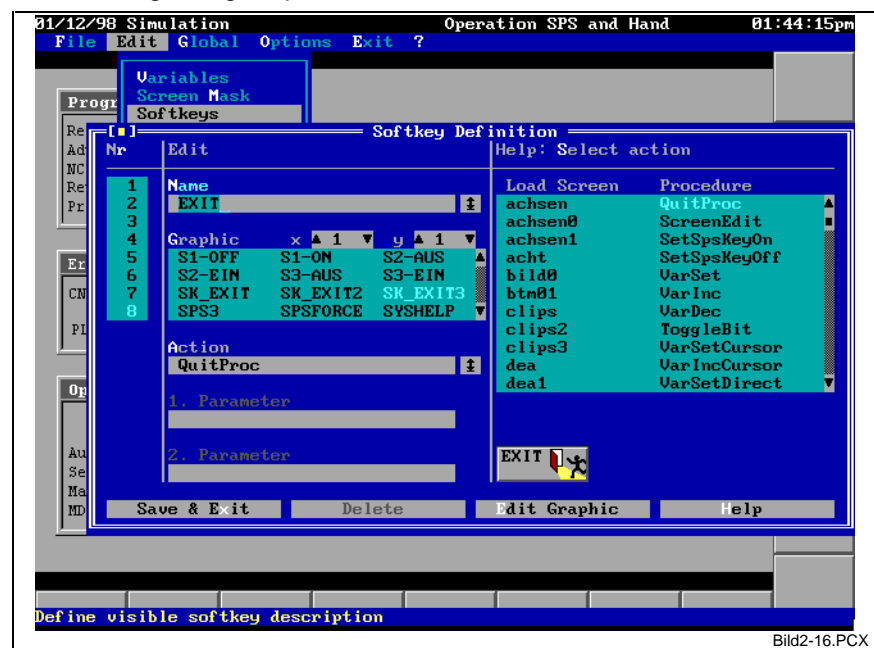
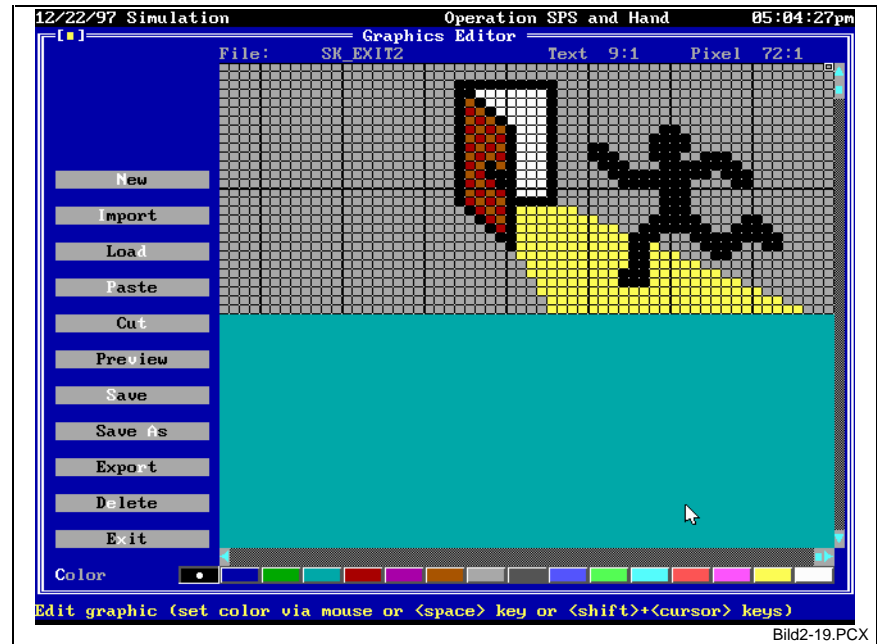

Fig. 2-16: Dialog for softkeys
Fig. 2-19: Graphics Editor with loaded graphic element for labeling a soft key
All existing actions are available for selection. In our example in Fig. 2-16, the soft key number 8 (at the right-hand side at the bottom of the screen) is provided with a label that consists of the text string EXIT and a previously created graphic element (the creation of graphics is described in Chapter 'Creating Pictograms / Graphics', page 2-18) that is moved to the right by 6 characters. The 'QuitProc' has been selected as the action. That action terminates the Custom Display System.
**Notes:** All soft keys are disabled (i.e. not accessible) during the work in the editor. This is shown by not displaying the button labels. Some procedures require additional parameters. In this case, the corresponding input fields in the dialog (see Fig. 2-16) become active. Please refer to Chapter 'Editing Soft Keys', page 3-32 for a detailed description of the parameters.
To be able to use graphic elements in the Custom Display System, they must be available in a special format that enables them to be output on the screen at the highest speed possible. Thus, there is a graphics editor (invocation: Global/Graphics) that permits standard graphics formats to be imported and graphic elements to be edited (see Chapter 'Graphics Editor', page 3-67). Fig. 2-19 shows the graphics editor with a graphic element that is used in Fig. 2-16: Dialog for softkeys for labeling the soft key 8.
The graphics editor permits individual pixels under the cursor position to be edited (in Fig. 2-19, the cursor sits in the upper left-hand corner of the graphics). Use the space bar or click the mouse button to set individual pixels. The currently selected color is used in this procedure (color switch at the bottom margin). Use the <Shift>+Cursor key combination to draw a line in the selected color.